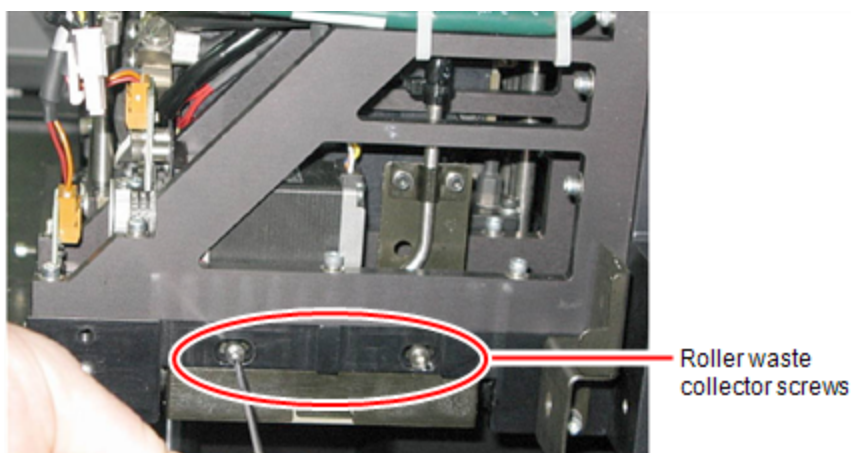

Figure 6-40 Removing the roller waste collector screws
1. Return the roller waste collector to the print block and screw on the covering (see Figure 6-40 on the previous page).